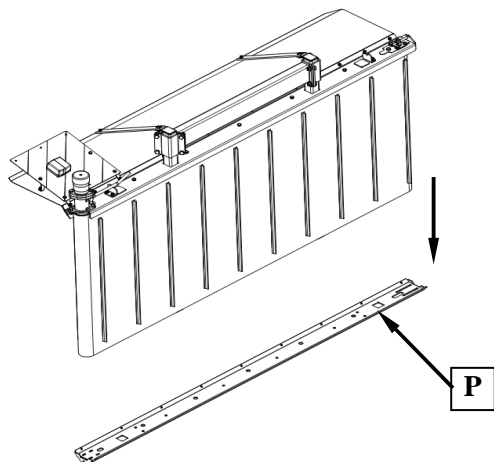
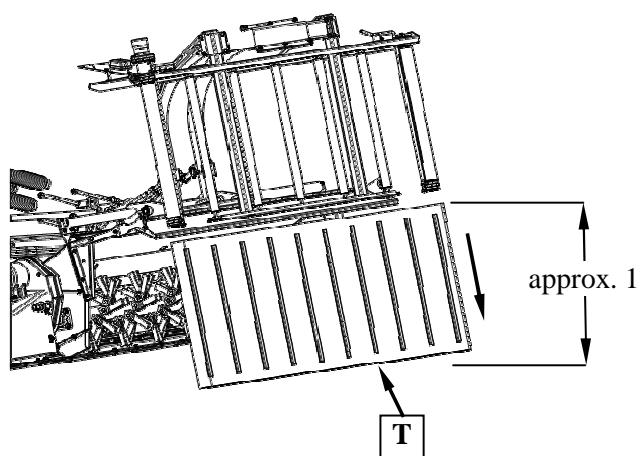

Fig. 31.
Fig. 32.
2. Dismount front belt in lower part of the conveyor **P** (**Fig. 31**). Slide belt **T** down (**Fig. 32**).